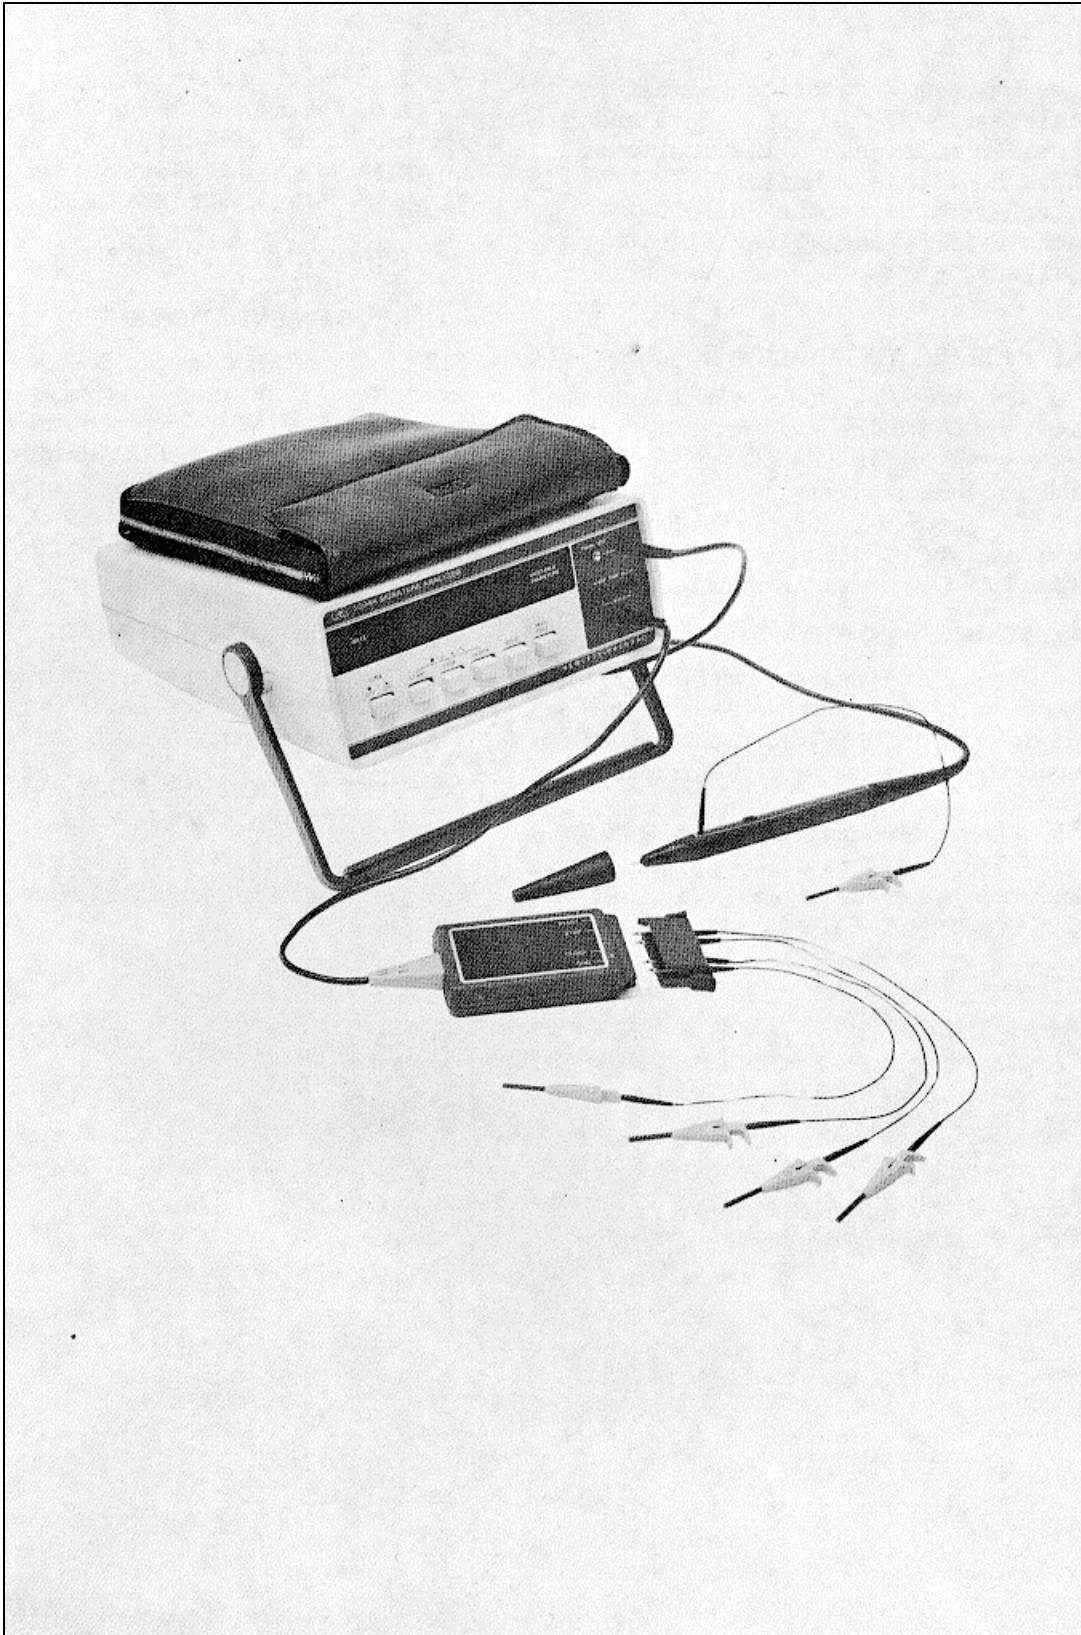

Figure 1-1. Model 5004A Signature Analyzer
a. This manual describes Signature Analyzer TS-3791/U (fig. 1-1) and provides maintenance instructions. Throughout this manual, TS-3791/U is referred to as the Hewlett Packard (HP) Model 5004A Signature Analyzer.
1-2. This operating and service manual contains information needed to operate, test, and service the Hewlett-Packard Model 5004A Signature Analyzer. Figure 1-1 shows the 5004A.
- 1-20.** The accessories supplied with the 5004A are shown in Figure 1-1.
2-4. Inspect the shipping container for damage. If the shipping container or cushioning material is damaged, it should be kept until the contents of the shipment have been checked for completeness and the instrument has been checked mechanically and electrically. The contents of the shipment should be as shown in Figure 1-1; procedures for checking electrical performance are given in Section IV. If the contents are incomplete, if there is mechanical damage or defect, or if the 5004A does not pass the performance tests, notify the nearest Hewlett-Packard office. If the shipping container is damaged, or the cushioning material shows signs of stress, notify the carrier as well as the Hewlett-Packard office. Keep the shipping materials for carrier's inspection. The HP office will arrange for repair or replacement at HP option without waiting for claim settlement.